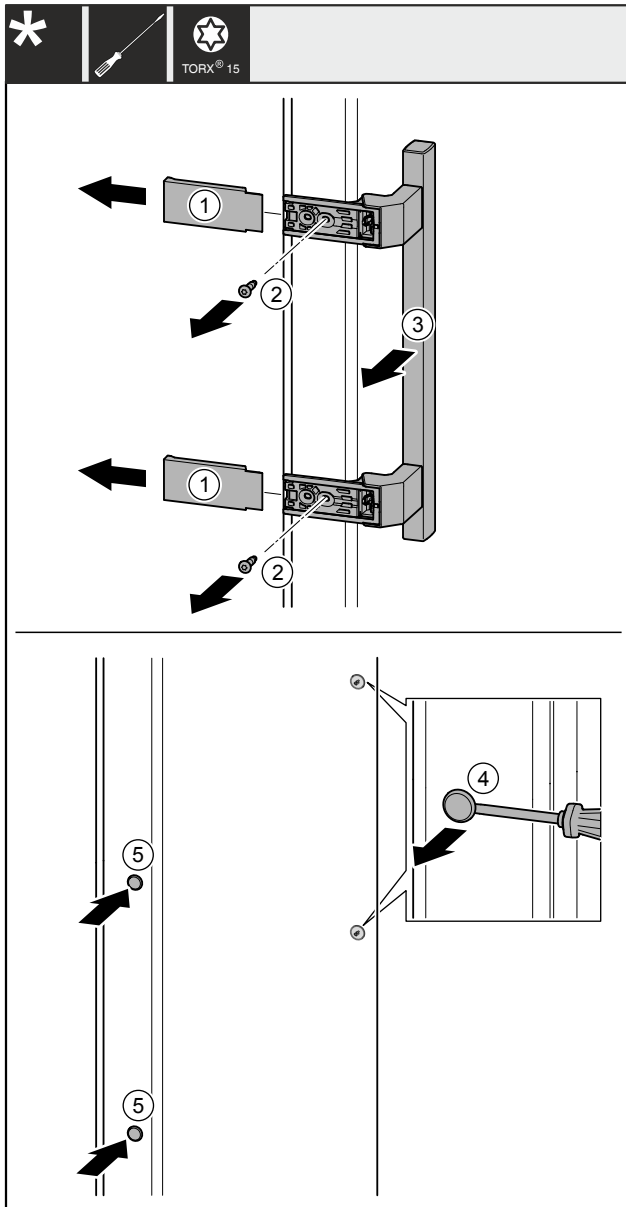

Fig. 27
- Remove the covers Fig. 27 (1).
- Unscrew screws Fig. 27 (2) with screwdriver.
- Remove the handle Fig. 27 (3).
- Use a slotted screwdriver to lift the side plug Fig. 27 (4) carefully and pull it out.
- Re-insert the plug Fig. 27 (5) on the other side.